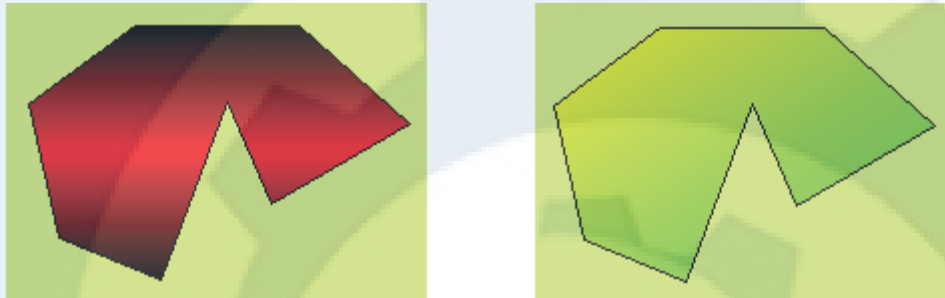

Figure 4-34: An example of a polygon drawn
- You may adjust the properties of the polygon using the pull-down and fine tuning button. SKWorkshop provides 15 frame line types, 10 frame line widths, and 21 filling patterns for polygon to make the graph more beautiful and vivid. See Figure 4-34.